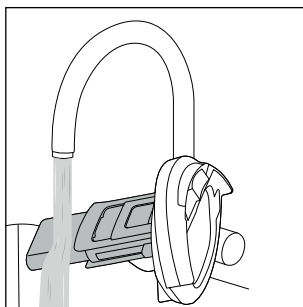

Fig. 25
- ◆ Clean the dirt filter **10**, the float **8** and the lid of the waste water tank **9** in hot running water (see fig. 25). If necessary, use a mild detergent.